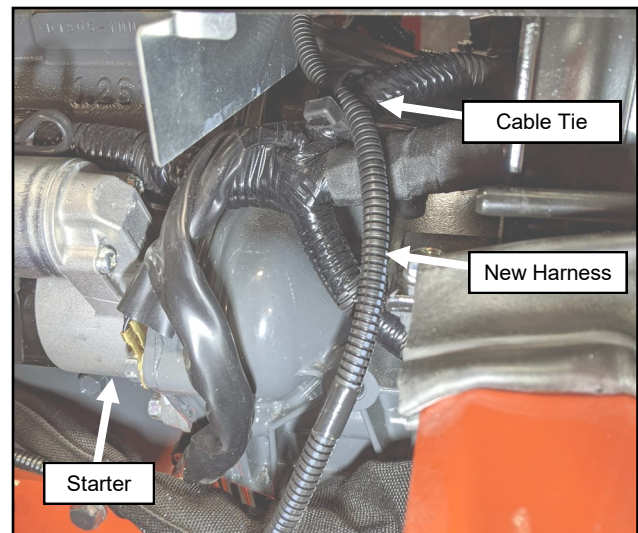

Fig. 16.2 (Secure Wiring Harness)
- 16.2** From the left side, secure the wiring harness to the vehicle wiring harness. See Figure 16.2.